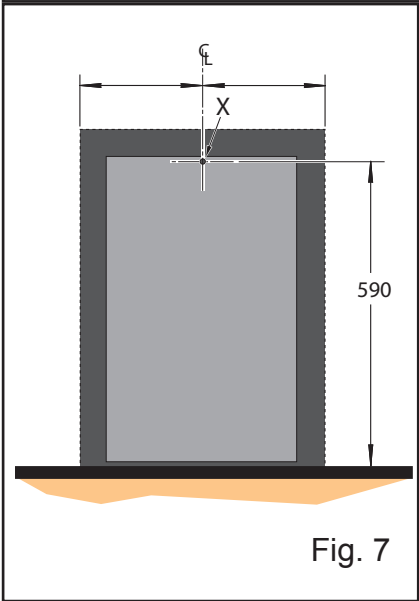

Fig. 7
1. Measure and mark the installation position of the hook. This position is indicated by 'X' in Fig. 7.